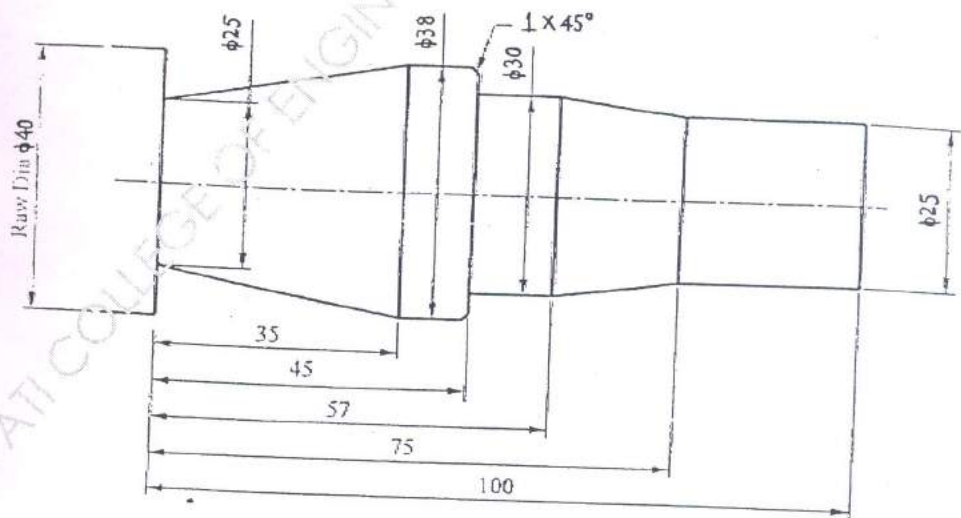

Figure 1
- Q.2 (A) Write a part program using G and M codes for finishing a forged component as shown in Figure 1. Assume the speed and feed on the turning center as 500 rpm and 0.3 mm/rev respectively. Assume suitable data if necessary. 10